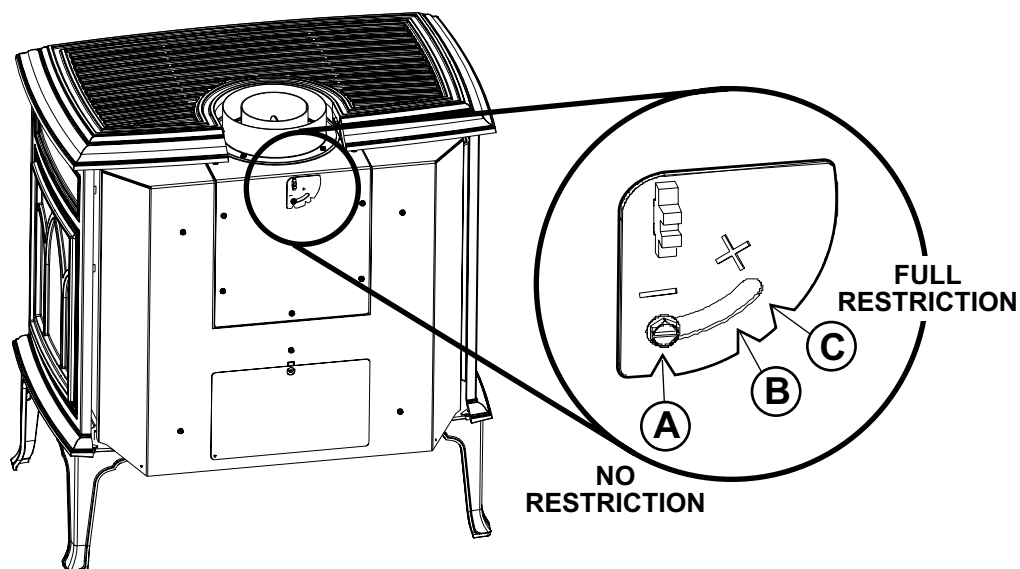
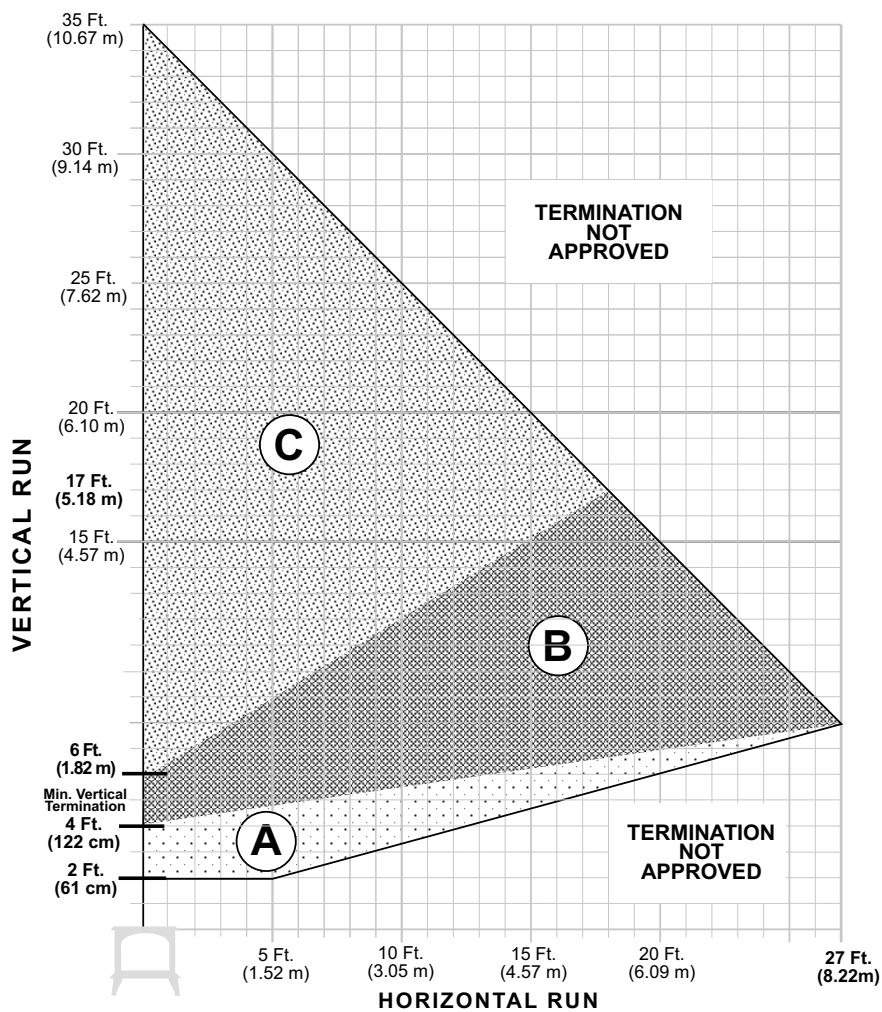

Figure 5.8. Use 1/4" socket driver to loosen the Exhaust Restrictor dial and adjust to the appropriate notch for your termination zone.
Figure 5.9. Vent Termination Zone Matrix - NG / LP
The Exhaust Restrictor is an adjustable plate located within the firebox exhaust outlet. It is adjusted by rotating the dial at the back of the stove within a range from the factory-set, fully open position (no restriction) to a fully restricted position. See fig. 5.8. The Minus and Plus signs on the dial relate to degrees of restriction, from zero to approximately 70%. The three lettered positions correlate to the termination zones (A,B,C) diagrammed in figure 15. Use the diagram to determine the degree of restriction and shutter setting you should use.
3. Locate the restrictor adjustment dial on the top of the exhaust outlet. Use a 1/4" nut driver to loosen the lock nut and pivot the dial to the position appropriate to your termination zone. See figs. 5.8 and 5.9.
The circled letter designations in the vent matrix in figure 5.9 correspond to the Exhaust Restrictor dial settings on the stove. First, determine which vent termination zone is appropriate for your installation, then adjust the restrictor to the corresponding position as shown in figure 5.8.
- The termination should fall within the shaded areas of the grids depicted in the Vent Matrix, fig. 5.9, page 11.
- Any horizontal termination must fall within the shaded portion of the vent window matrix shown in fig. 5.9, pg. 11.